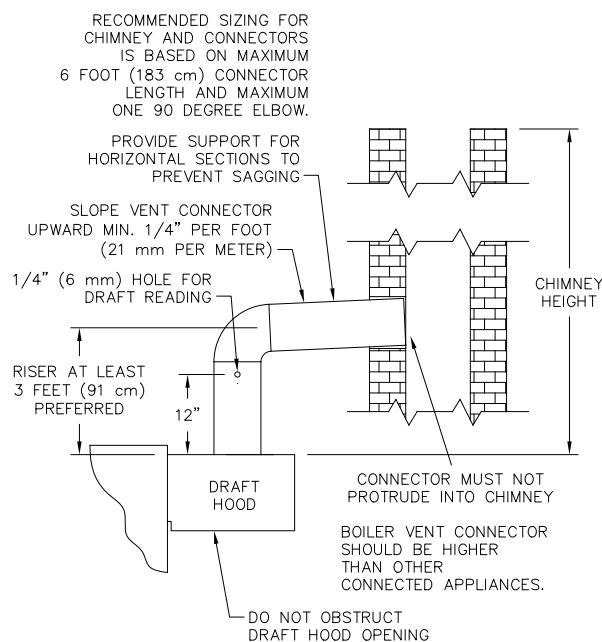

Figure 1.8: Vent Connection
6. Vent Connection to Boiler (Figure 1.8):